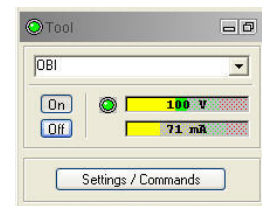

Figure 4-1 Tool panel
2. Select the relevant OBI tool from the drop down list (Figure 4-1) in the software's **Tool** panel (if your tool is not listed check that your tool configurations file is stored in the designated folder on your computer).
4. On the **Tool** panel (Figure 4-1) click the **Settings / Commands** button to configure your tool (see chapter 4.5 for details).